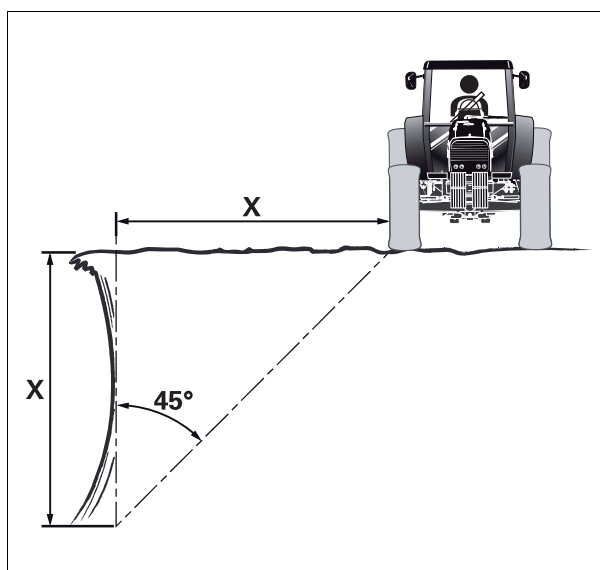

Fig. 4.
- Do not work near the edge of ditches and banks as there is a risk of them collapsing. The tractor must always be kept a distance from the edge that is equal to or greater than the height of the bank or ditch fig. 4.